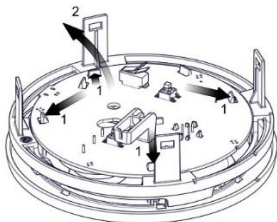

Figure 15
4. Disconnect the PCB from the holding tabs (see Figure 15).